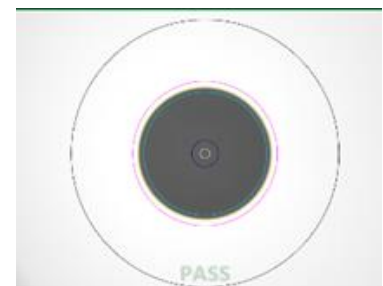

Figure 2: Image of Clean Fiber
- If a fiber stub (a darker circle on a lighter background as shown in Figure 2) is detected, follow standard inspection and cleaning procedures. If you are unable to focus on a fiber end face, do not clean the port. The SFP uses a lens that cannot be cleaned.